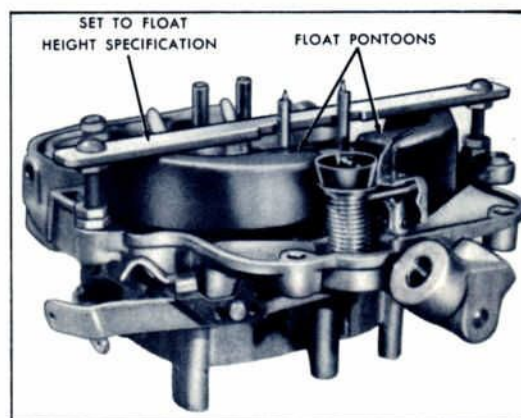

Fig. 19 Float Setting Adjustment
2. Insert the ends of the gauge screws in the outboard holes of the air horn (Figure 19).